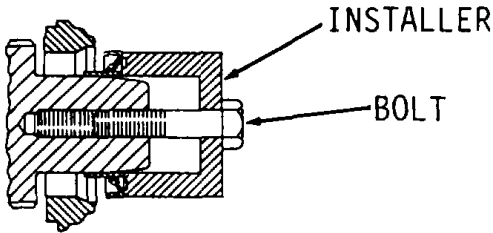

Figure 13-65.
- 17. Install bolt on installer and tighten until inside surface on installer comes in contact with end of crankshaft (Figure 13-65).